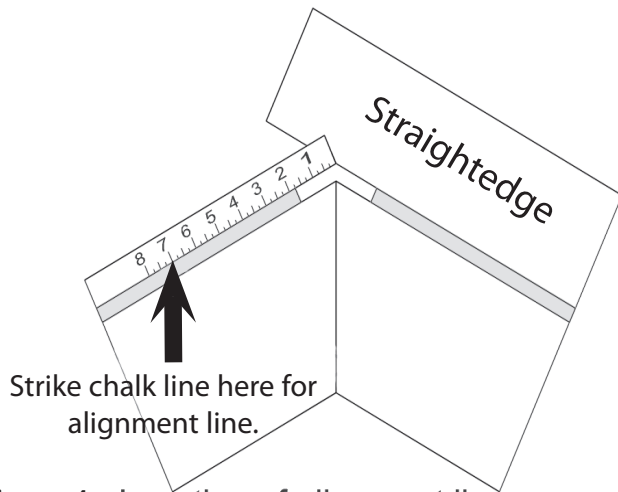

Figure 4 Location of alignment line.
STEP 3 - It is very important that the OmniRoll® ridge vent be aligned correctly and evenly down the roof's ridge. Snap a chalk line down both sides of the ridge at a distance of 7" down from the peak as shown in Figure 4. The chalk lines should be used to help keep the OmniRoll® centered over the peak of the roof during installation.